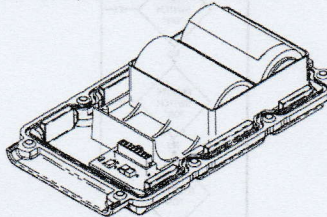

Figure 5 Battery Pack Assembly
- 4) The battery pack for the ME406 Series ELT consists of two "D" size lithium manganese dioxide cells connected in series. To prevent the cells from being charged, diodes and fuses are connected to the inline power from each cell. The fuses also protect from high output. See Figure 5 Battery Pack Assembly.